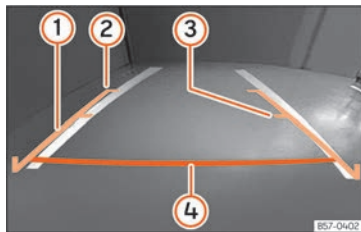

Fig. 200 Display on the Infotainment system screen.: guide lines.
- Vehicle load modifies the representation of the guide lines »» Fig. 200. The width represented by the lines decreases with vehicle load. Pay special attention to the surroundings when the inside of the vehicle of the luggage compartment are loaded.
» **Fig. 200**